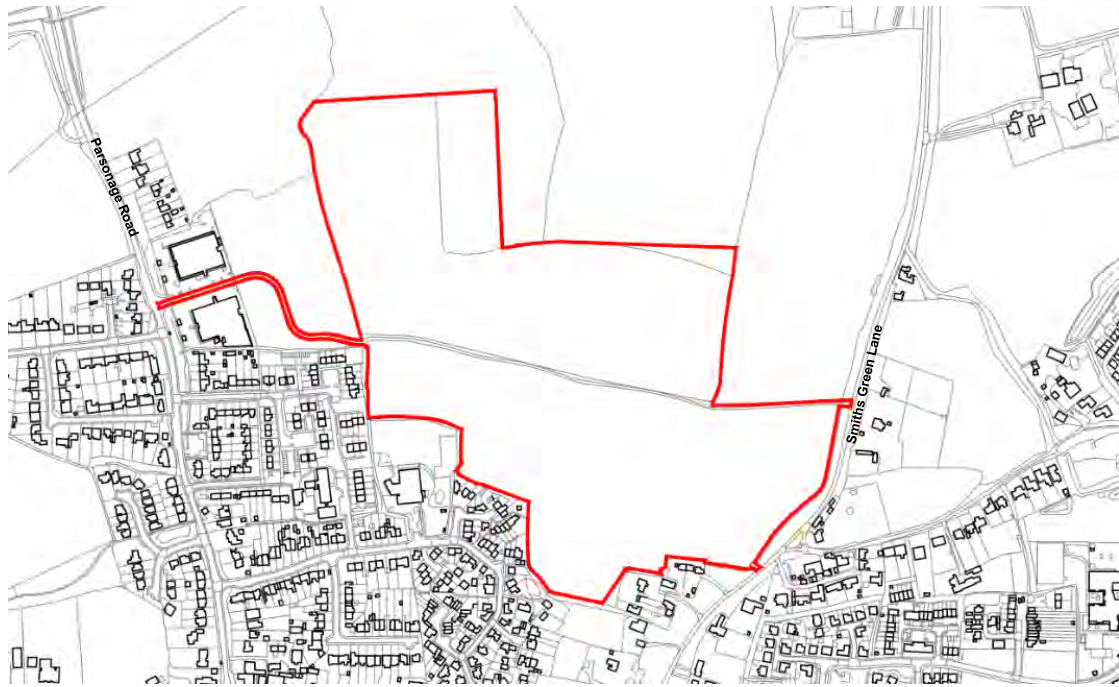

Figure 1 - Site Location
- 1.1. This report has been prepared to provide an overview of the servicing constraints and supply implications associated with the proposed residential-led development on the Land known as Bull Field, Warish Hall Farm, Takeley, Essex (PINS Ref. No. S62A/2023/0019). The location of the Site is shown on **Figure 1** below.